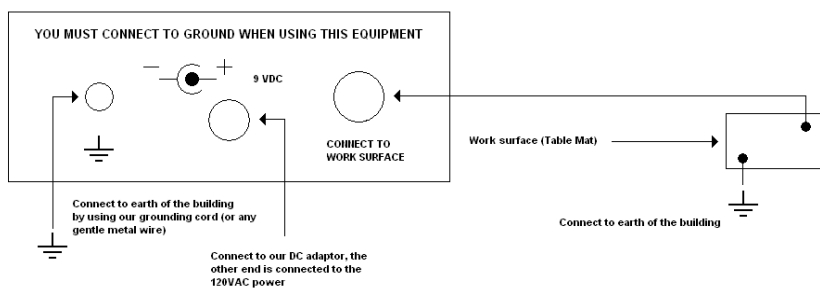

FIGURE 1.
1. Connect this equipment to the earth/electrical (ground) of the building. This equipment comes with a grounding wire. One end of the ground wire is connected to the back of the CM-1700. The other end is connected to the earth/electrical ground. (FIGURE 1.). Always check that the electrical ground is correctly attached.
2. Connect the CM-1701 to the ESD work surface (Table Mat) by using a cord with banana plug (Not provided) See (FIGURE 1.).
3. Connect the ESD work surface (Table Mat) to the earth/electrical ground the mat must have a conductive layer. See (FIGURE 1.).
4. Connect the 9VDC power adaptor to the back of the equipment. The other end is connected to AC power supply of the building See (FIGURE 1.).
The LED is on flashing a RED LED and alarms the buzzer even if the connection is well attached as in Figure 1.